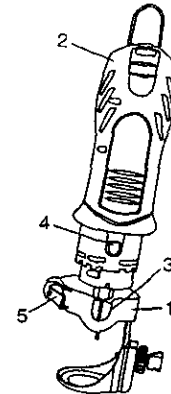

Fig. 4
1. Slide freehand cutting guide mounting bracket (1) onto the bottom of motor housing (2) until the slot in the bracket (3) lines up with the shaft locking button (4) in the motor housing (see Fig. 4).
2. Install freehand cutting guide as shown in Fig. 4.